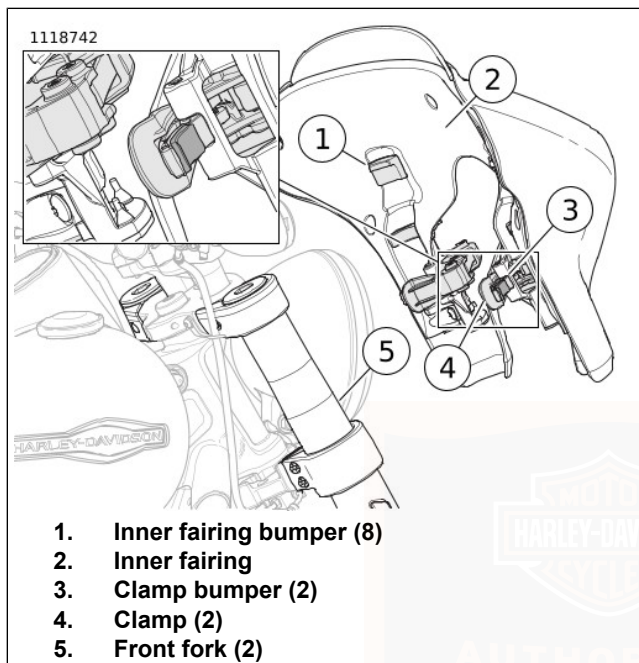

Figure 45. Fairing Clamps
1. See Figure 45. Inspect fairing.
- Verify inner fairing bumpers (1) and clamp bumpers (3) are in place, clean, and in good condition.
- Open and close clamps (4) to verify they are in working order.